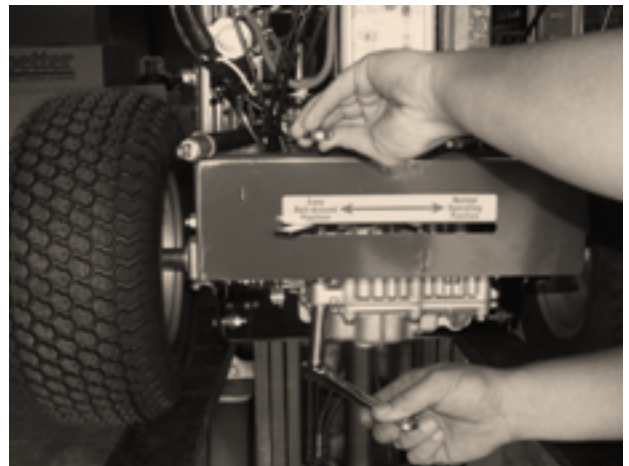

Figure 33
4. Using a ½ wrench and socket, remove the battery clamp bolt **Figure 33**.